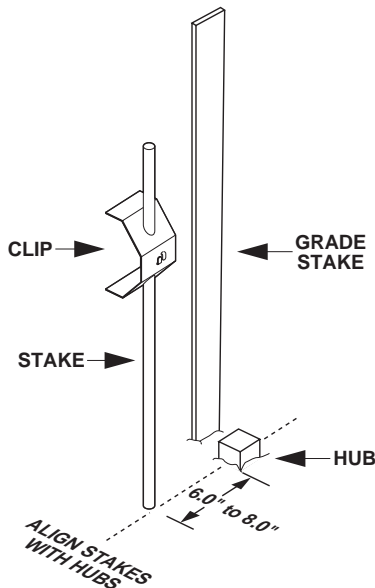

Figure 3-7. Place Clips and Position Stakes
1. Place the Sonic Grade Clips on stakes and drive the stakes approximately 6 to 8 inches away from, but in line with, the hubs—Do Not disturb the hubs (Figure 3-7).